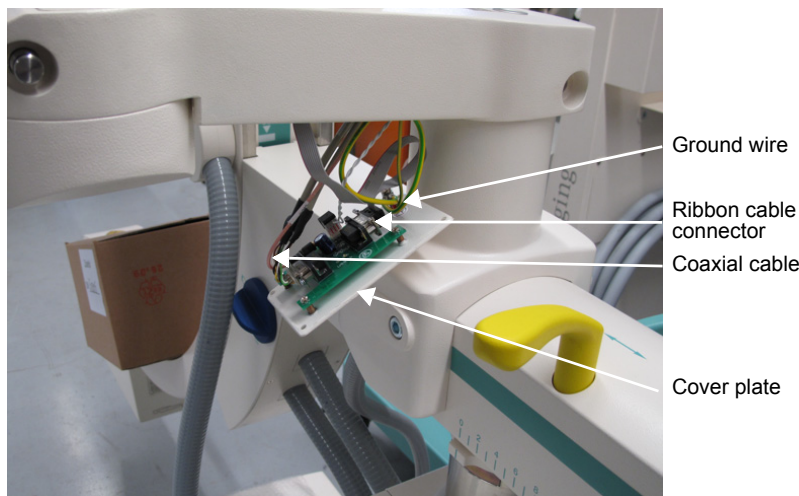

Fig. 4-8 Connections on the circuit board of the cover plate
- Connect the ground wire to the grounding point on the circuit board mounted on the cover plate (→ *Fig. 4-8*).